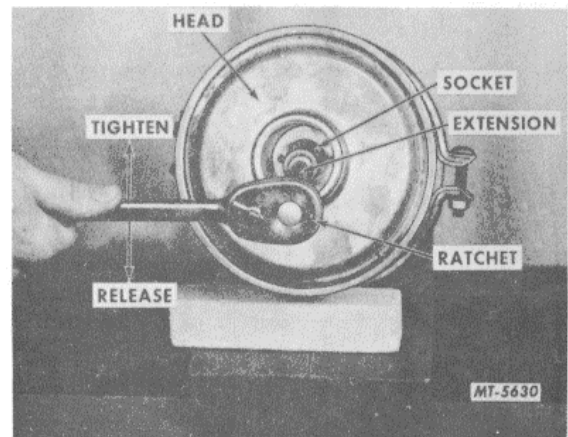

Fig. 8 Backing Off Release Bolt.
2. Back off parking brake release bolt located in end of parking brake chamber, Fig. 8. This action will compress the parking brake spring and at the same time allow the coil spring within the service brake to decompress to a brake released position.
17. To reactivate the parking brake, apply air pressure to the parking brake section and tighten release bolt to approximately 50 pounds torque, Fig. 8.